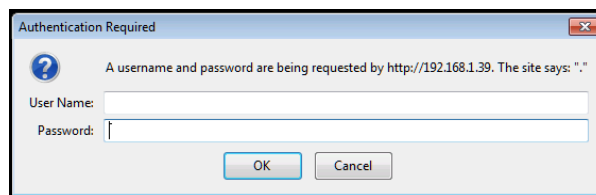

Figure 8: Entering Logon Credentials
**Note:** If authentication is enabled, the following window appears (Figure 8) and you must enter the valid username and password to access the Web pages. For default authentication details, see Default Logon Credentials on page 30.